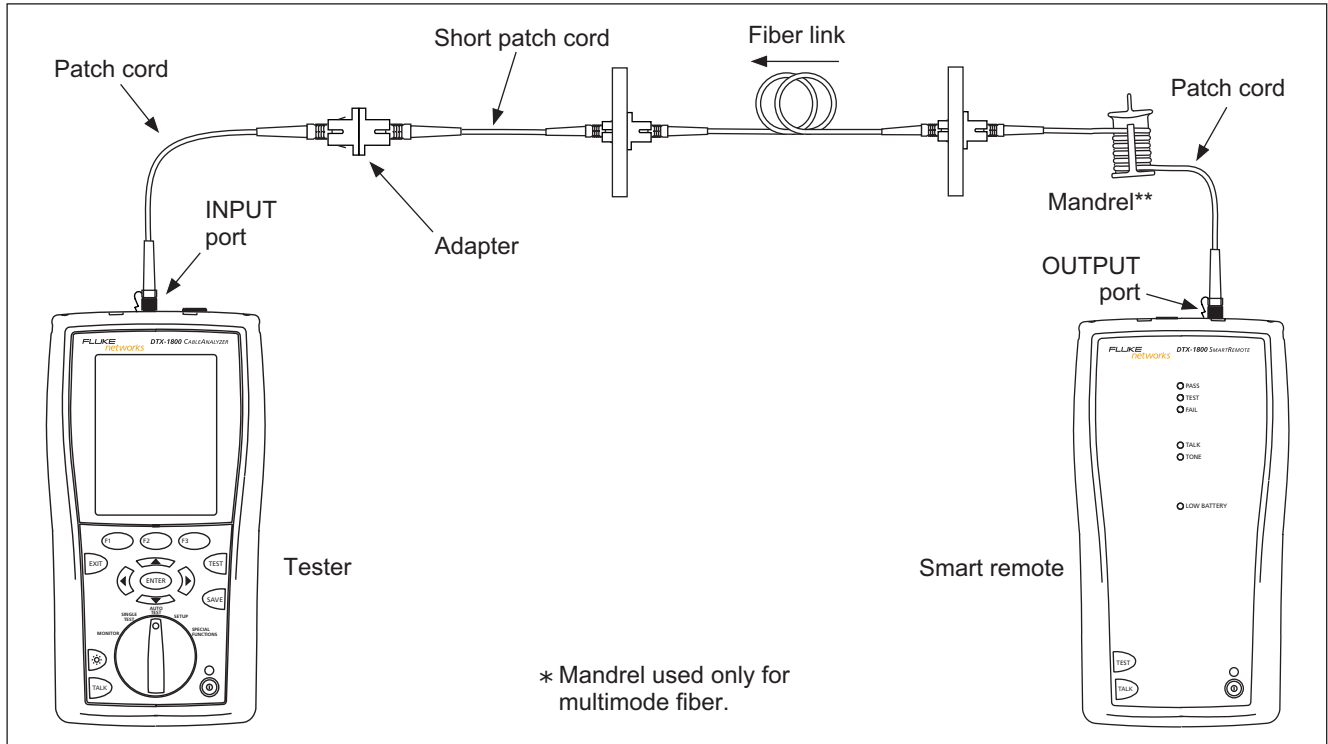

Figure 5-16. Far End Source Mode Test Connections (Modified Method B)
- 3 Connect the tester to the cabling as shown in Figure 5-16.